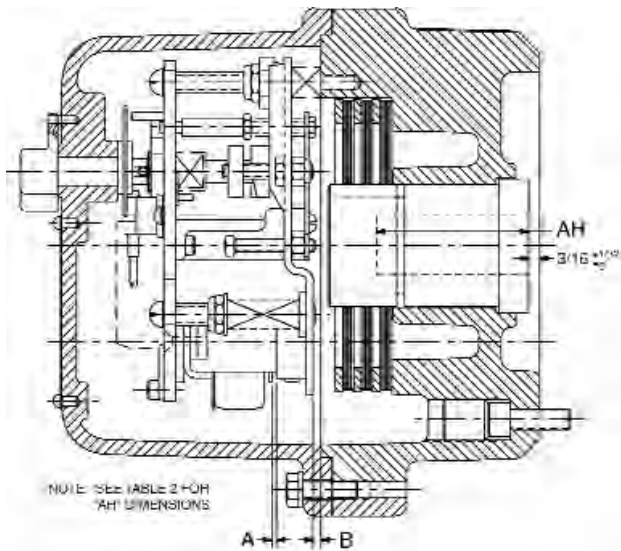

Figure 5. 60 Series H.L. Brake
1. Remove hub (6) from brake and mount hub with key (not supplied by Dings) on motor shaft per dimension shown in Figure 5. Be sure that hub used is item supplied by Dings for hazardous location applications. Tighten both set screws to 8-10 lb. ft. torque.
2. Cast Iron Enclosure: Remove four cover bolts (42A) and lockwashers (43) and remove cover (38A).
## WEAR ADJUSTMENT (See Figures 5 & 7)
(See Figures 5 & 7)